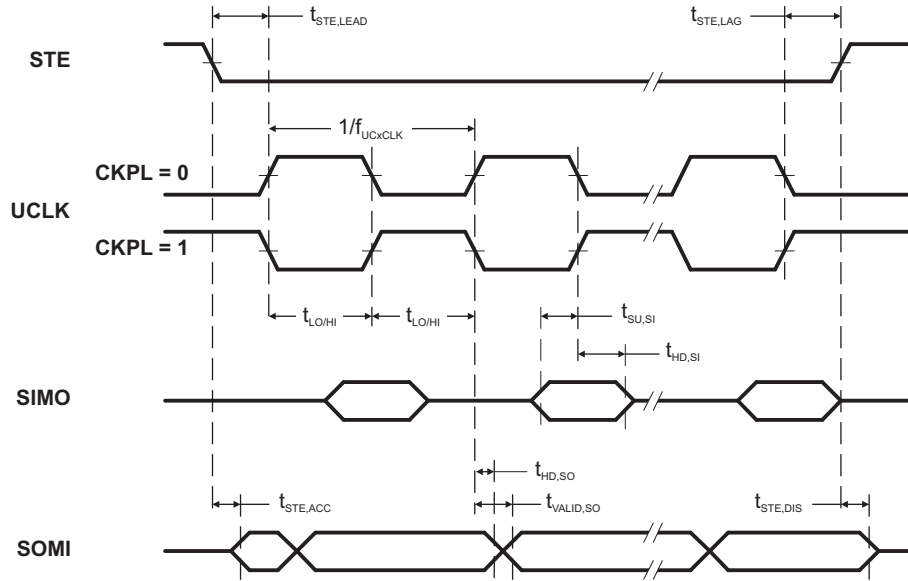
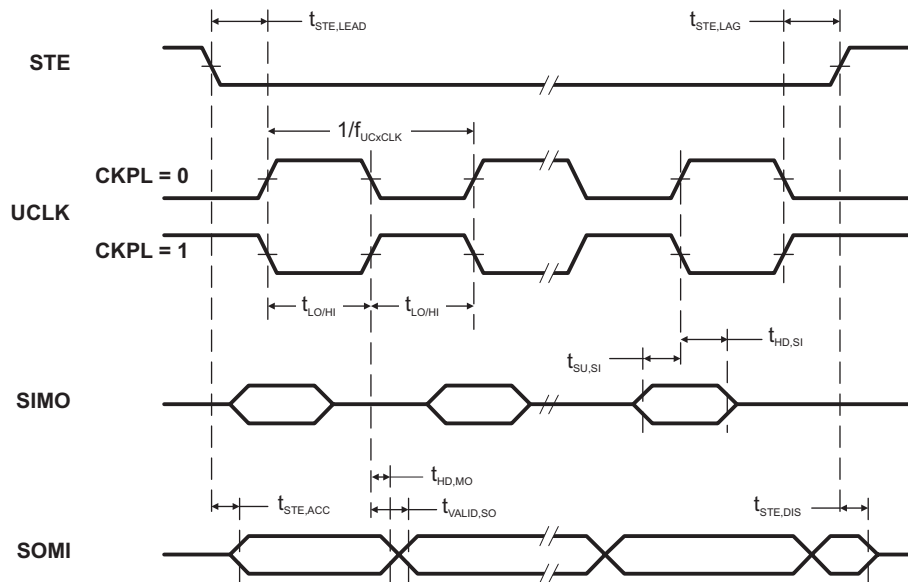

Figure 5-13. SPI Slave Mode, CKPH = 0
Figure 5-14. SPI Slave Mode, CKPH = 1
(see Figure 5-13 and Figure 5-14)
- (1) $f_{UCxCLK} = 1/2t_{LO/HI}$ with $t_{LO/HI} \geq \max(t_{VALID,MO(Master)} + t_{SU,SI(USCI)}, t_{SU,MI(Master)} + t_{VALID,SO(USCI)})$. For the master parameters $t_{SU,MI(Master)}$ and $t_{VALID,MO(Master)}$, see the SPI parameters of the attached slave.
- (2) Specifies the time to drive the next valid data to the SOMI output after the output changing UCLK clock edge. See the timing diagrams in Figure 5-13 and Figure 5-14.
- (3) Specifies how long data on the SOMI output is valid after the output changing UCLK clock edge. See the timing diagrams in Figure 5-13 and Figure 5-14.